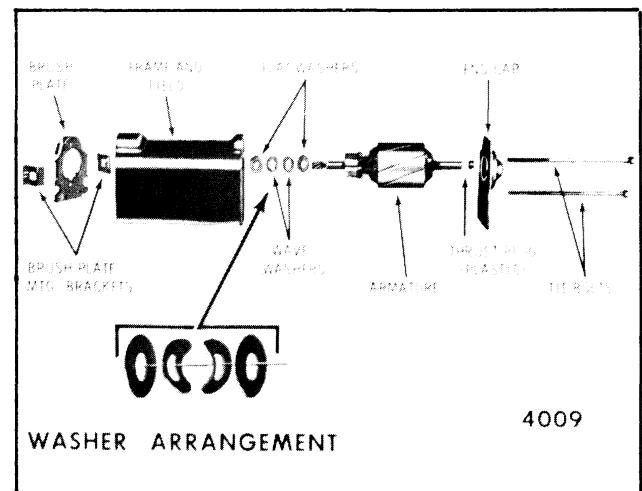

Fig. 2-17-Wiper Motor-Exploded View
2. Remove motor tie bolts (Fig. 2-17).
7. Remove end play washers from commutator end of armature shaft. When reassembling armature in wiper, install washers as shown in Figure 2-17.